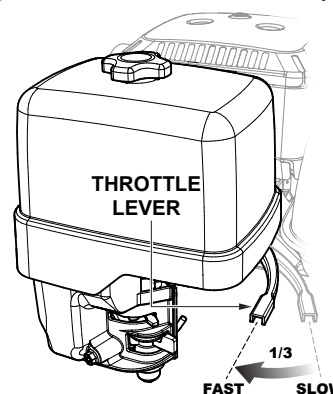

Figure 11. Engine Throttle Lever (1/3 Start Position)
3. Move the **engine throttle lever** (Figure 11) away from the slow position, about 1/3 of the way toward the fast position.